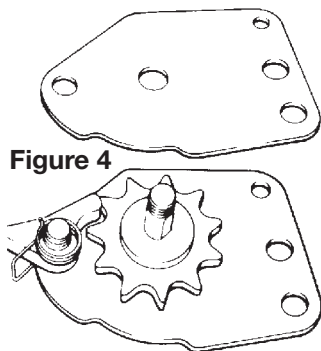

Figure 4
6. Match up the second plate (55) with the first, and place over the detent pin and pivot bolt. Do not insert spring ends into plates at this point (see Figure 4).